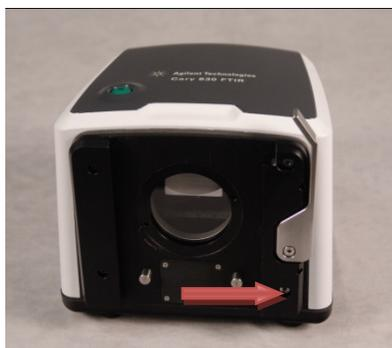

Figure 1. Press the release lever of the Cary 630 Engine outwards before sliding the accessory into place.
- 2 The accessory is meant to slide into the recessed or dovetailed area. This is done by matching the dovetail to the front plate and sliding in a downward fashion. (Figure 1)